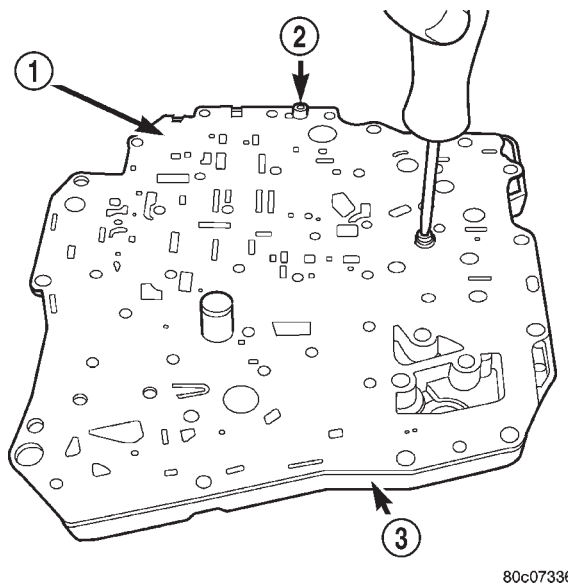

Fig. 126 Separator Plate-to-Transfer Plate Screws
- (8) Remove separator plate-to-transfer plate screws (Fig. 126).